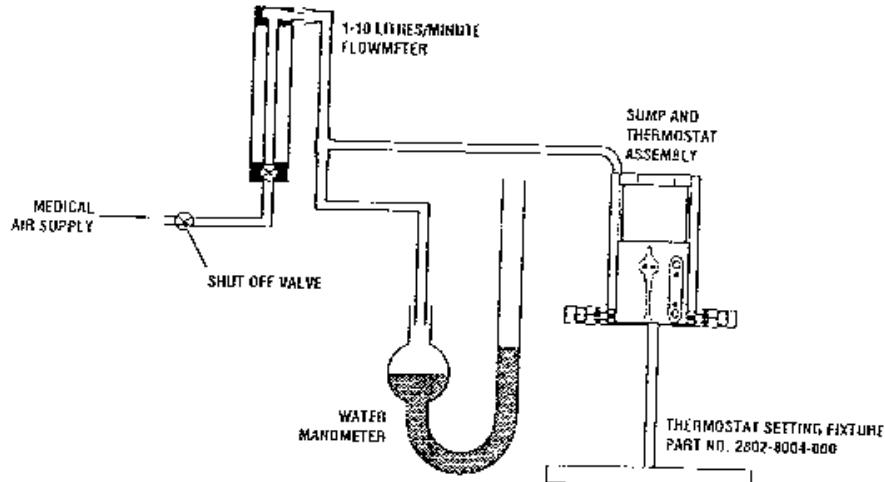

Fig. 3.13 Thermostat Pressure Test
#### 3.7.1 Thermostat Test (Fig. 3.13)
4. Maintain a flow of 5 litres/minute and connect the thermostat assembly to the thermostat setting fixture Part No. 2802-8004-000, as illustrated on Fig. 3.13.